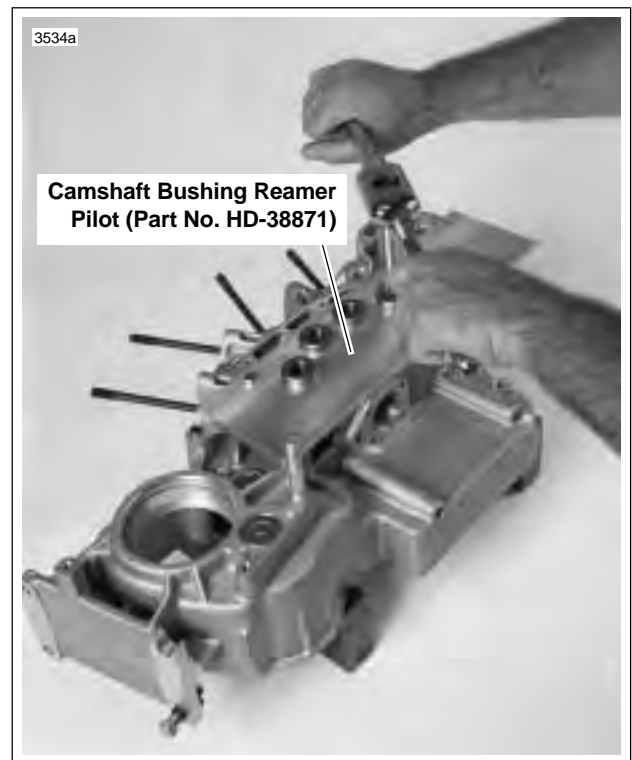

Figure 3-69. Reaming Cam Gear Bushing in Right Crankcase Half
2. See Figure 3-69. Position CAMSHAFT BUSHING REAMER REAMER PILOT (Part No. HD-38871) onto gearcase side of crankcase half; upper right and lower left indexing holes in pilot must be placed over dowels in crankcase half. Insert two bolts (supplied with pilot) through two remaining holes in pilot, and into threaded holes of crankcase half. Tighten bolts securely.